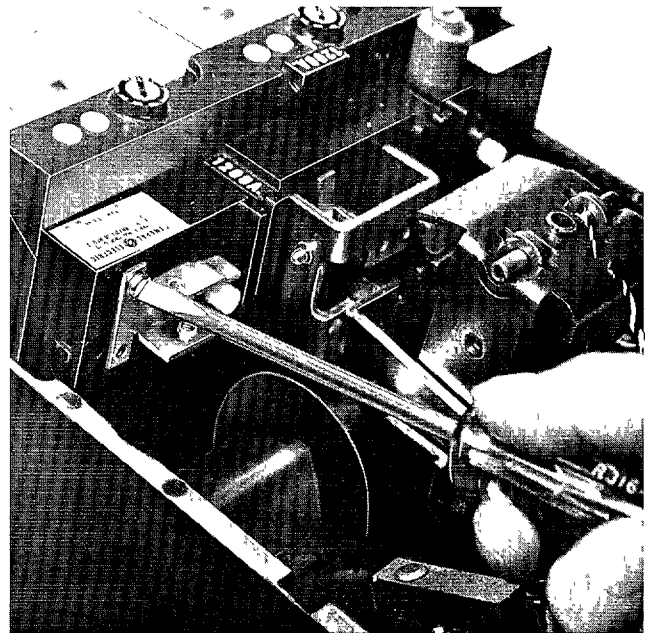

Figure 5 Mounting Bracket on TKMA trip unit
2. Locate the mounting bracket on the trip unit case. Fasten firmly in place (See Figure 5).